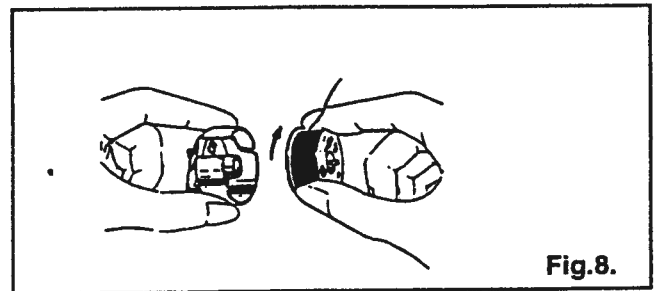

Fig.8.
1. Hold bobbin case so that thread unwinds in the direction shown in Fig.8. and put bobbin in bobbin case.